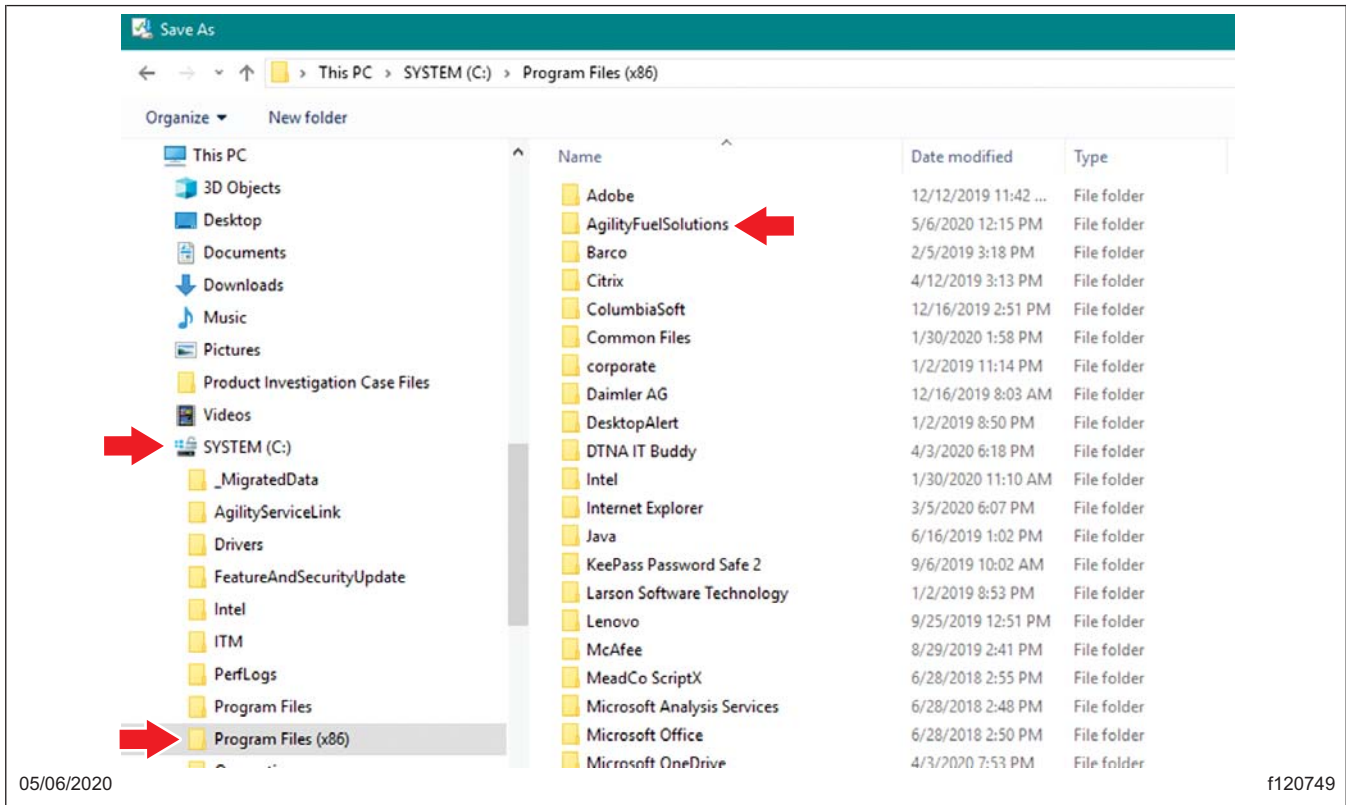

Fig. 18, Directory Window
20. Browse through the directory where the Agility service link application was installed earlier [C:\Program Files\ (x86)] and double click the Agility Fuel Solutions folder. See Fig. 18.